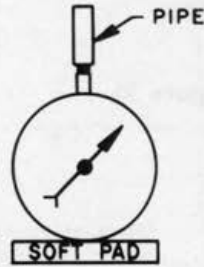

Figure 33
1. Attach a piece of pipe about 6" long to the gauge connection. Pipe must be in a vertical position. (See Figure 33).